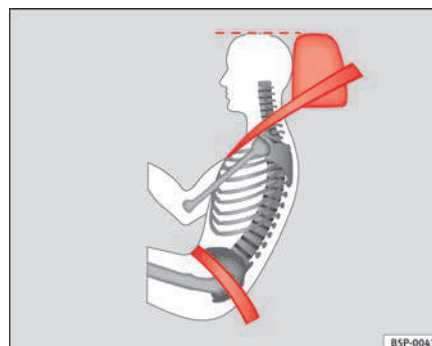

Fig. 13 Correct belt web and head restraint positions, viewed from side
- The lap part of the seat belt must lie across the pelvis, never across the stomach. The seat belt must lie flat and snugly on the pelvis ⇒ **page 22, fig. 13.** Pull the belt tight if necessary to take up any slack.